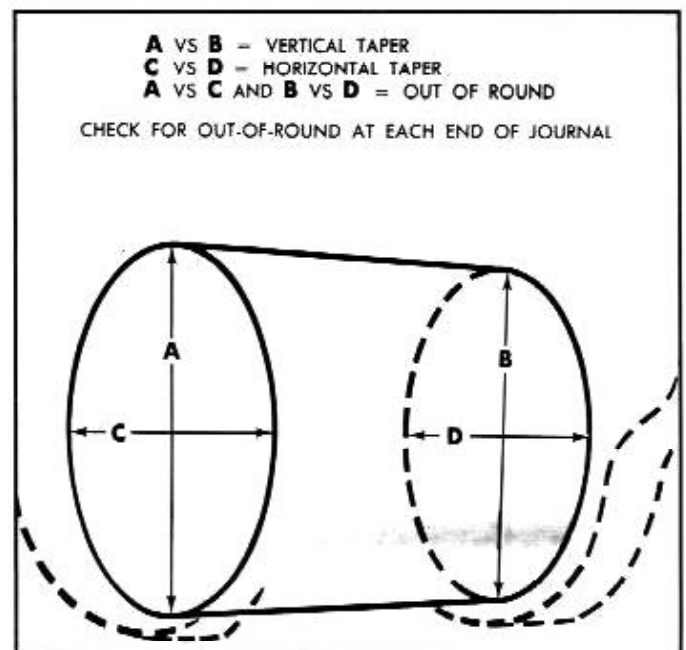

Fig. 6A-63—Crankshaft Journal Measurement
8. Compare the width of the flattened Plastigage at its widest point with the scale printed on the Plastigage envelope. See figure 6A-64. This reading indicates the bearing clearance in thousandths of an inch. Clearance should be from .0008" to .0026" (.0036" wear limit).